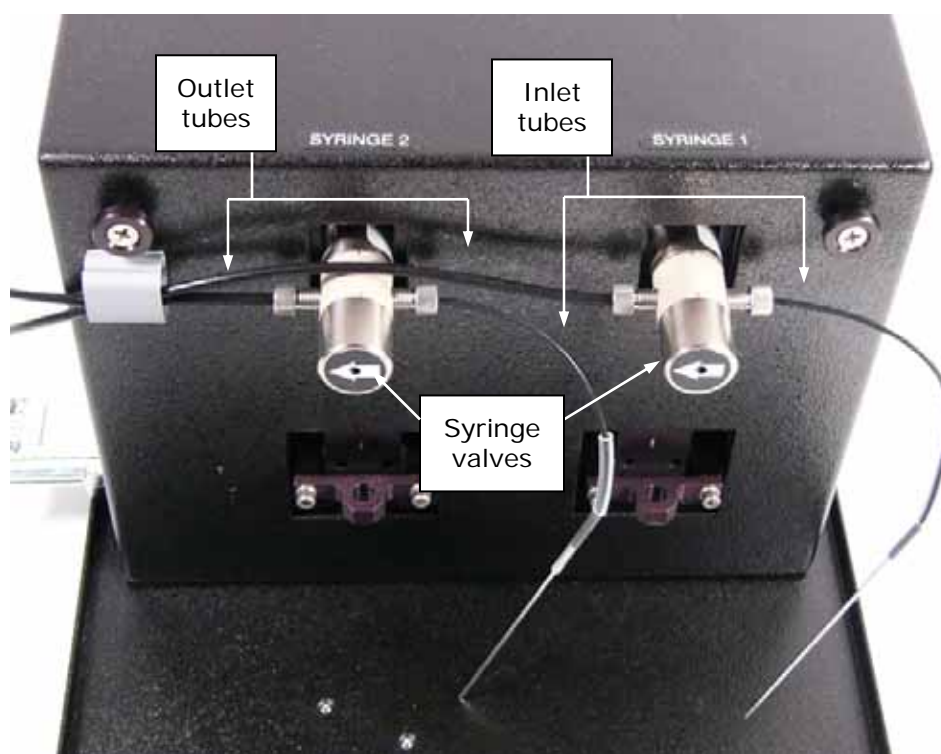

Figure 12: Initial setup of the dispense module
6. Identify the two circular **syringe valves** on the dispense module. Each is labeled with a left-pointing arrow. See **Figure 12** on the next page.